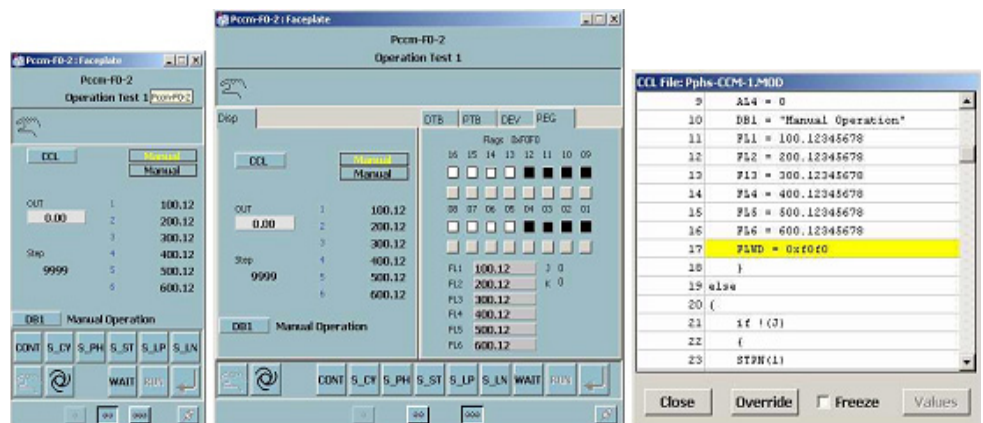

Figure 196. CCM Module (with CCL Pop-up)
**Custom Control Module (CCM).** The Custom Control module faceplate represents a flexible customized operation function block in an 800xA for DCI controller. The CCM can be used in situations where standard Controlware modules cannot meet the control needs of a process. The CCM module reports the operating mode, a step number, values of input signal attachments, storage registers, flags, constants, message indication, and output attachments that are available for use by CCL programs that are executed by the CCM and are used for display in the faceplate. It also identifies and links to CCL files and PTB, PAR and DEV Controlware modules that can source data into it. Figure 196 shows the layout of the CCM normal and extended sized faceplate with a CCL pop-up and its attributes.